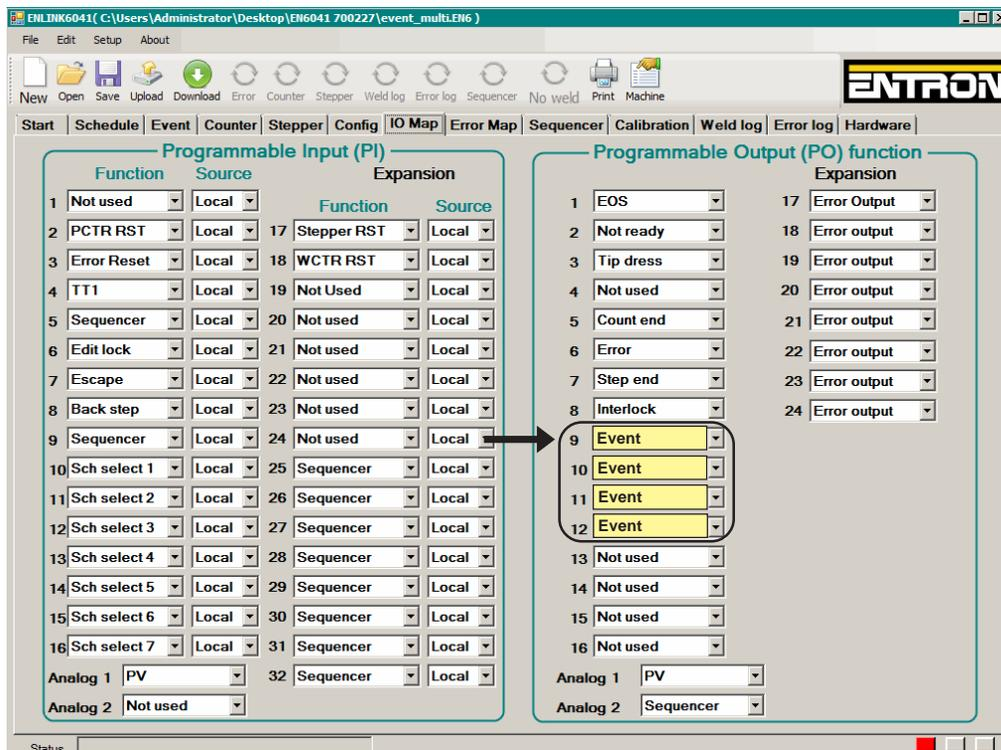

Figure 9-24. Input/Output Map page
C. Map OUTPUTS PO9 through PO12 to Event on Input/Output Map page (Figure 9-24).